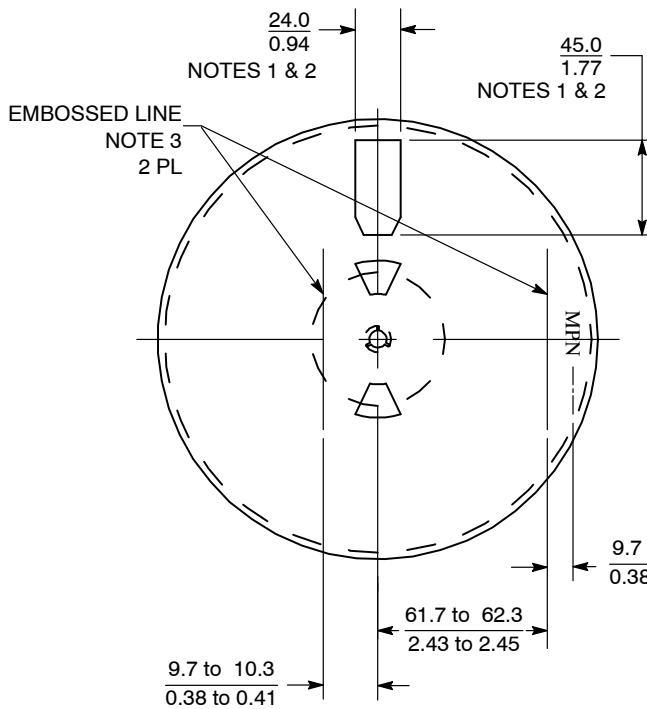

Figure 46. Front View of 178 mm (7.0 in) Reel
- If there are any flange openings on the front side of the 178 mm (7.00 in) reel they must be designed in locations so that two of the 41.3 mm (1.65 in) ON Semiconductor barcode labels can be applied parallel to each other as in Figure 46.
- Flange opening on the front and the back of the reel are a supplier option but must meet all of the requirements in Note 1. The preferred size for the 176 mm (7.0 in) reel is shown in Figure 46.
- The embossed lines on the reel are a option. If the lines are used they must be located as in Figure 46 and 47. They must be a minimum 38 mm (1.50 in) long. The thickness is a manufacturer's option and not to be used for inspection criteria.